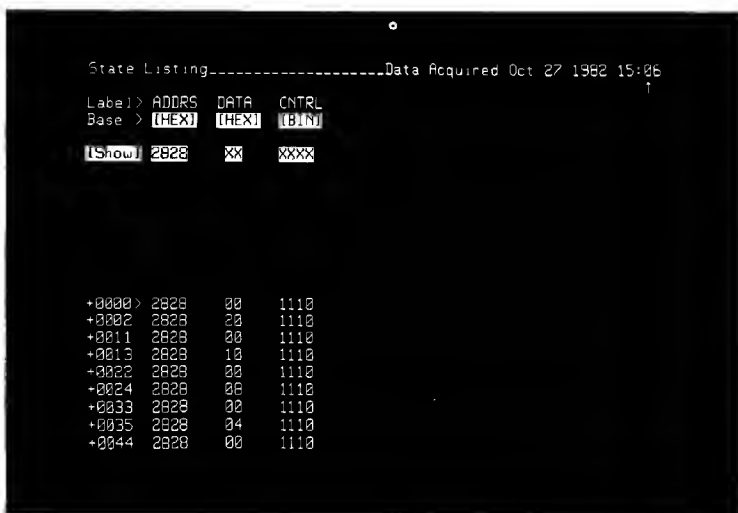

Figure 3-10. Trace List With [Show] Selected
4. Now press the NEXT[] key. The field will change to [SHOW], and the display will show only those lines from memory that have the address state you selected. See figure 3-10.